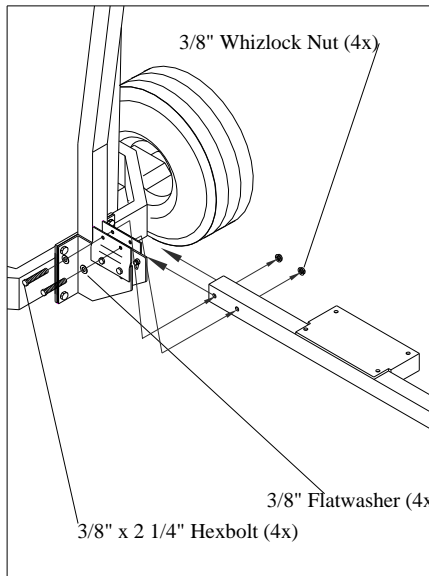
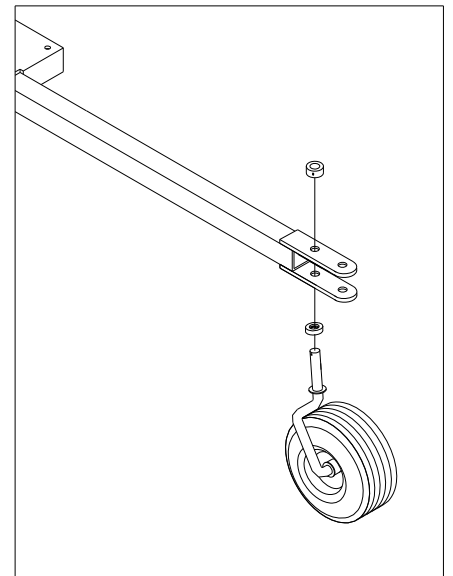

Fig. 5
Fig. 6
5. Attach engine frame assembly (1) to risers (30) and secure with 3/8" x 2 1/4" HHC, flat washers, and whizlock nuts. DO NOT TIGHTEN. **Fig. 5** Slide Thrust Bearing (44) over caster yoke assembly shaft. (35) Insert shaft through second hole from front of draw plate. Slip collar clamp (28) over shaft and tighten set screw. Now, tighten all bolts. **Fig. 6**